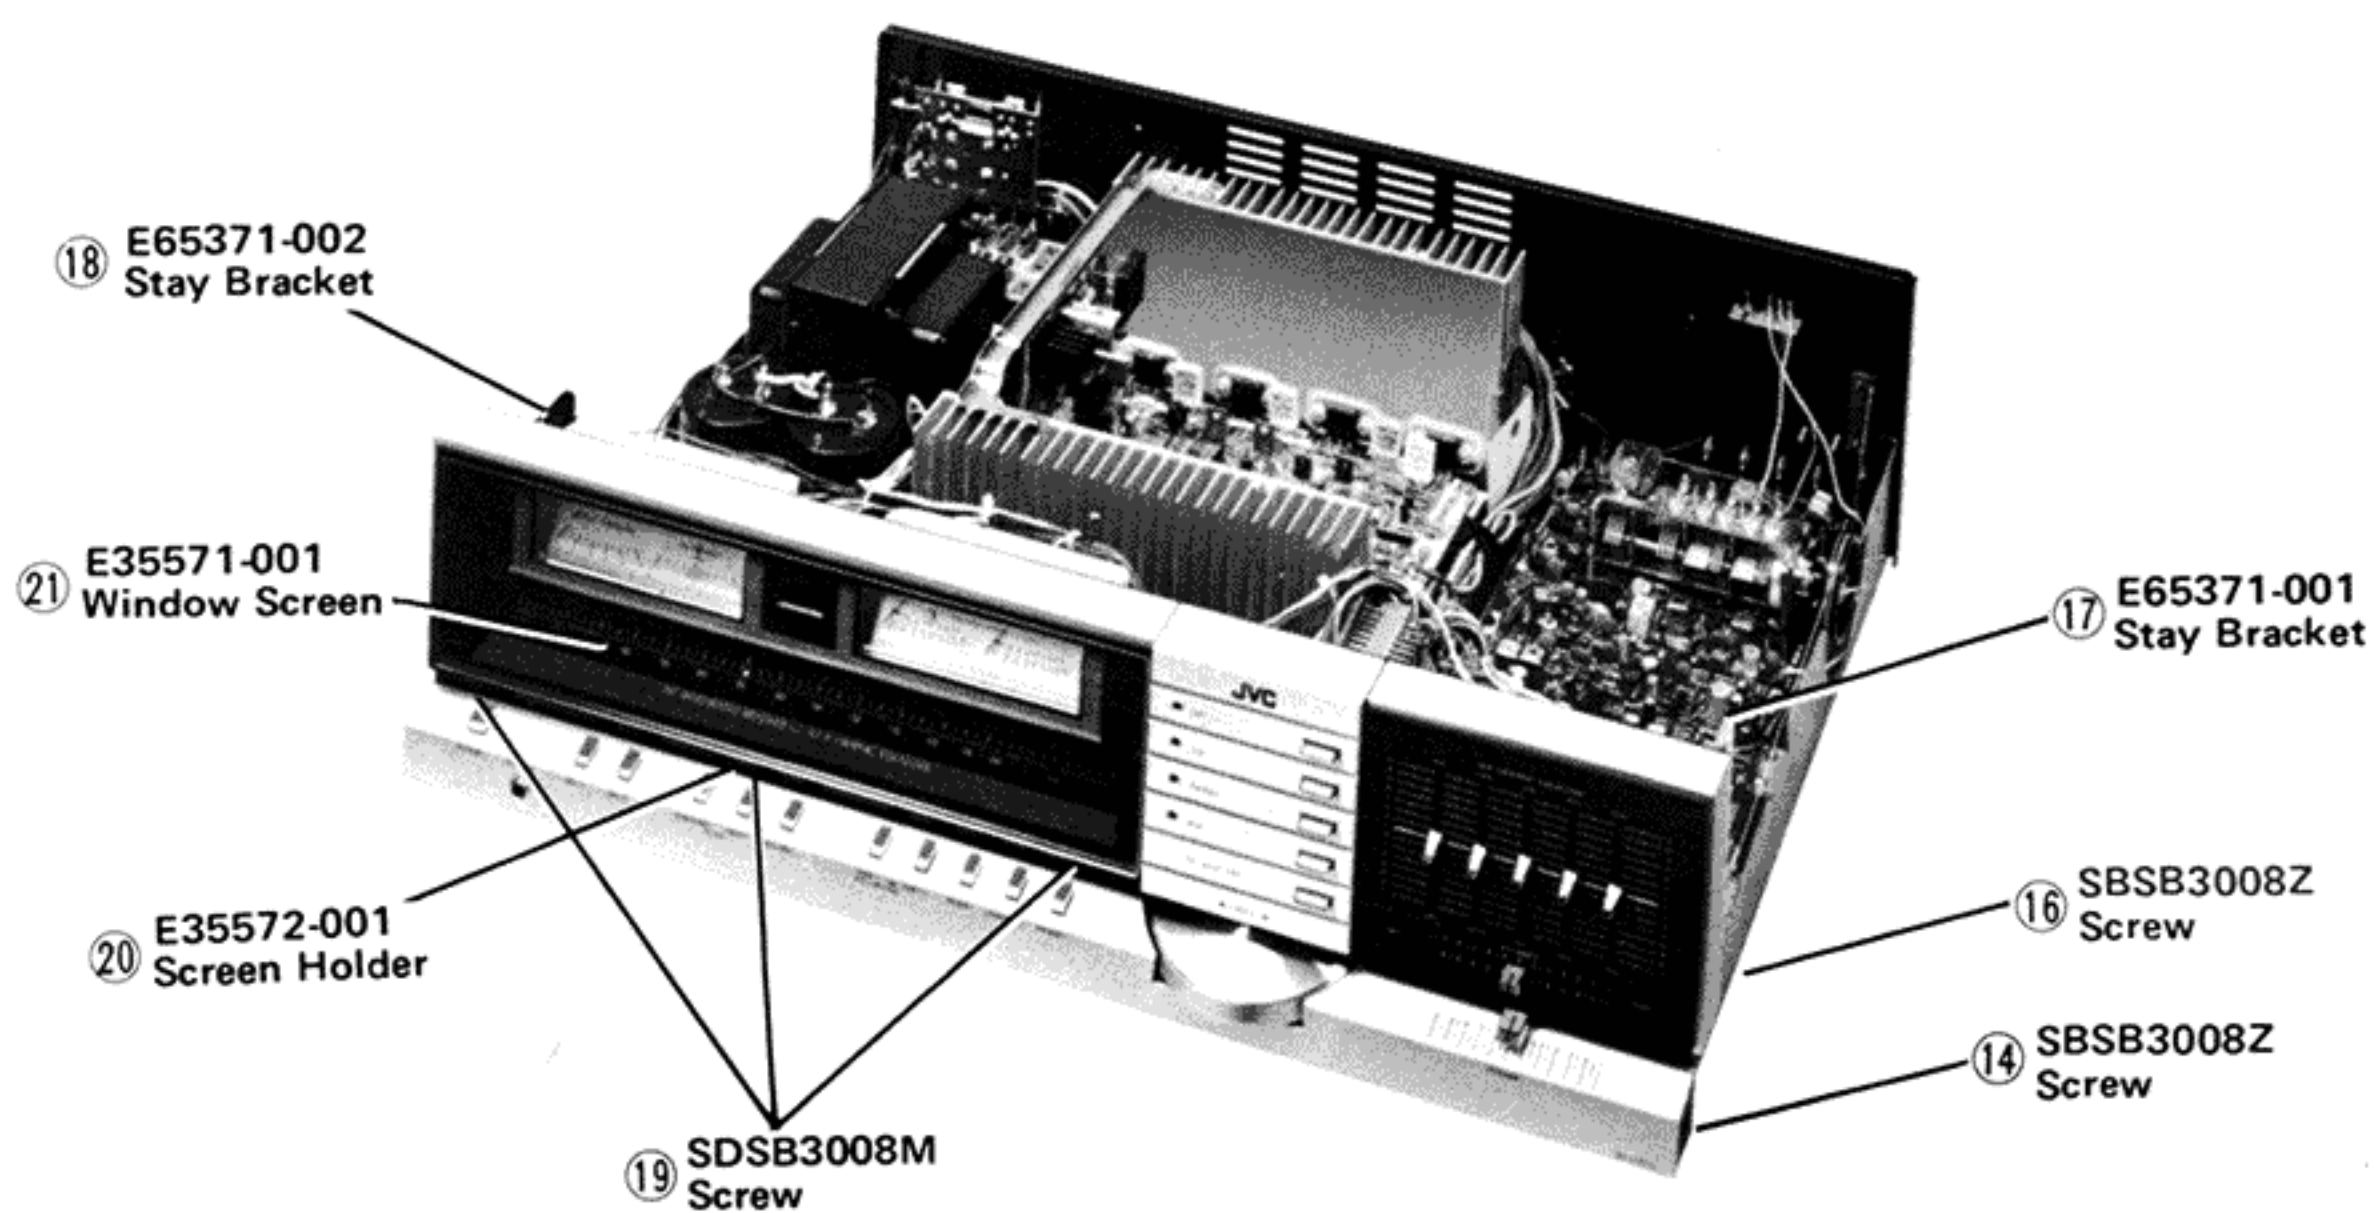

Fig. 5
1. Remove 4 screws (Item No. 14) from the both sides of chassis and remove 3 screws (Item No. 15) from the bottom. See Figs. 5 and 6.